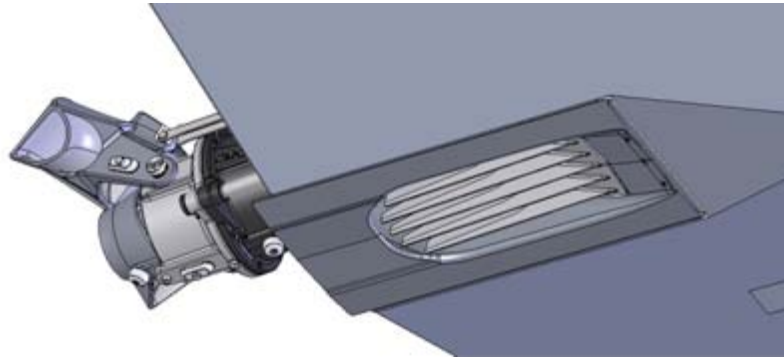

Figure 42. Checking the grass rake for blockages
2. Check the grass rake (figure 42).